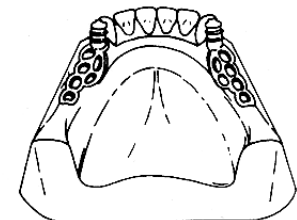

Fig. 12
20. Seat the framework and clips over the males on the master model (Fig. 12). The retainer crowns and framework may be tried in at this time. An alternative is to complete the prosthesis prior to try in.